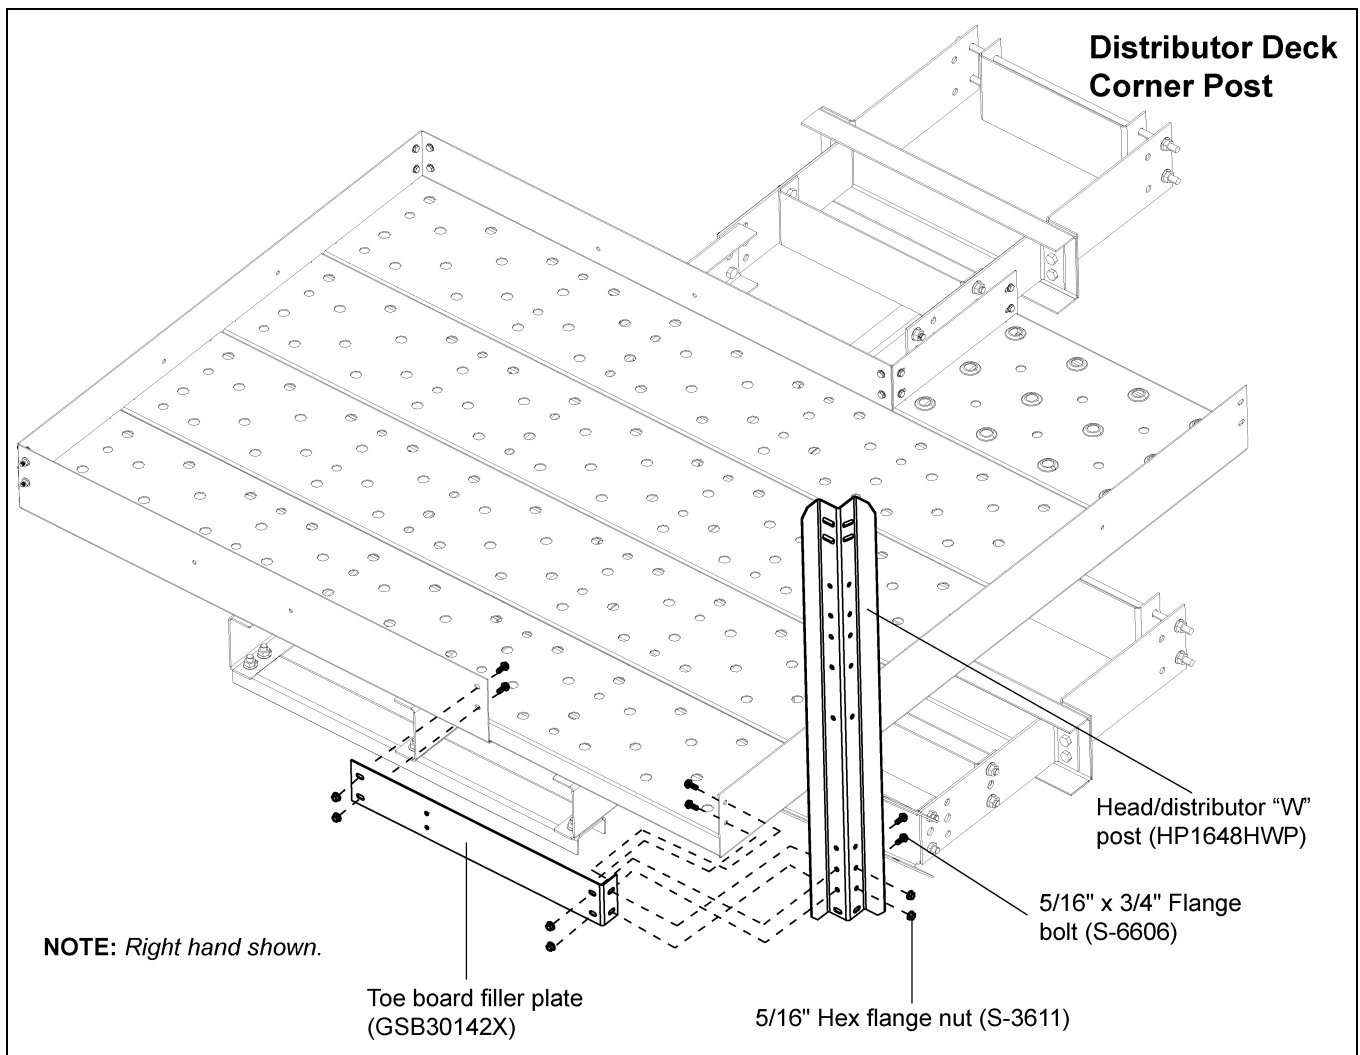

Figure 10K *Distributor Platform Corner Post*
5. Install the corner “W” post at the same time as the toe board filler plate. Attach toe board filler plate to the decking toe boards located across from the entrance. Attach the flat end first using two (2) 5/16" x 3/4" flange bolts and nuts. Then line up the holes of the toe board filler plate with the decking toe board, while also aligning the holes of the “W” post on the corner. Fasten all three (3) together with four (4) 5/16" x 3/4" flange bolts and nuts. *(See Figure 10K on Page 73.)*